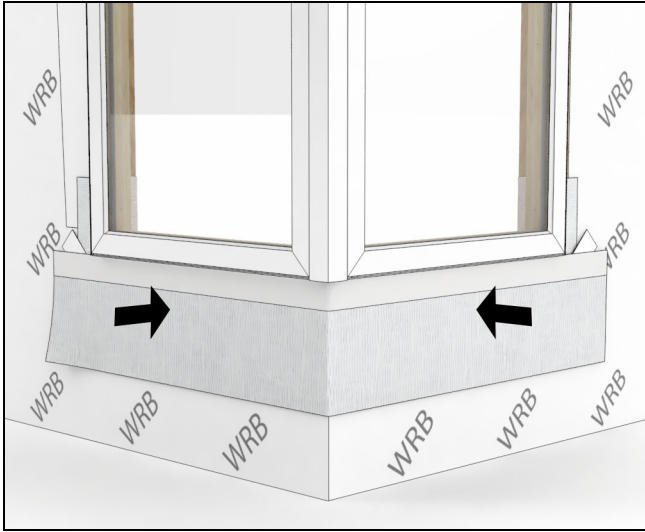
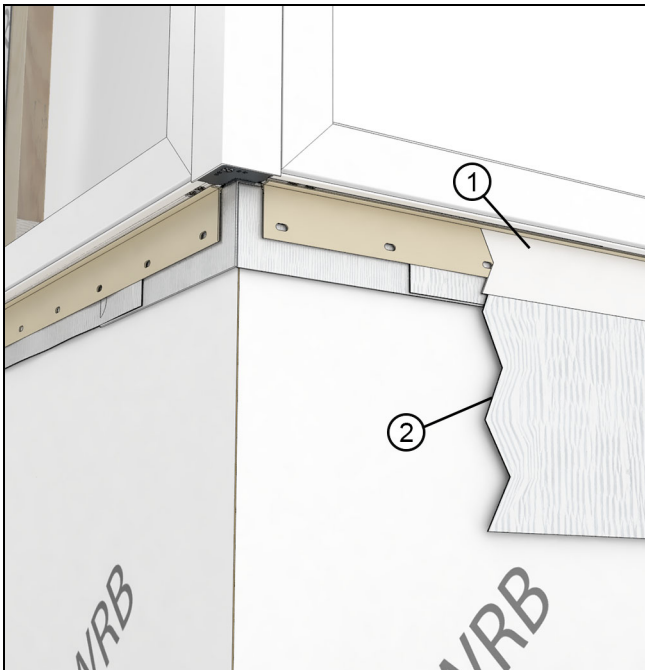

Figure 59
Figure 60 Illustration of high pressure skirt cut away for illustrative purposes.
3. Install an **optional** "high pressure skirt". Use flashing material or a strip of weather resistive barrier and attach it to the sill of the window with seam seal tape or flashing tape. See Figure 59 and Figure 60.